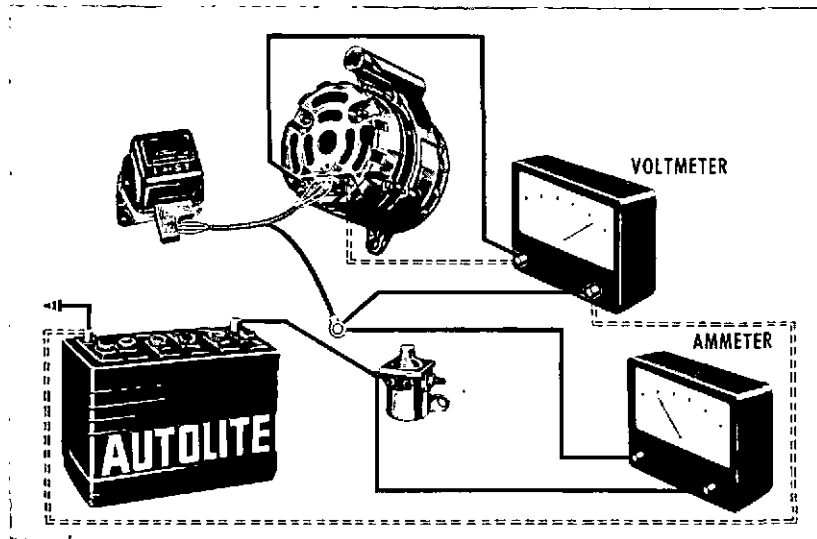

Fig. 8 — Circuit Resistance Tests
**TEST CONNECTIONS AND PROCEDURE** — The test connections are shown in Fig. 8. Disconnect the battery ground cable. Remove the alternator lead wire from the battery terminal on the starter relay. Connect an ammeter between the starter relay battery terminal and the removed alternator lead. Also connect a voltmeter between the removed alternator lead and the output terminal (BAT) on the
alternator. (Solid lines in Fig. 8). On Ford Autolite alternator systems, disconnect the regulator connector from the regulator and install a jumper wire across the "A+" and "F" terminals on the connector. On Leece-Neville systems, remove the "BAT" and "FLD" wires from the regulator and connect the wires with a jumper.
To test the ground circuit, connect the voltmeter negative lead to the alternator frame, and the positive lead to the battery ground post. (Dotted lines in Fig. 8). Start the engine and observe the voltmeter while the ammeter reads 20 amps. The voltage should not exceed 0.3 volt.